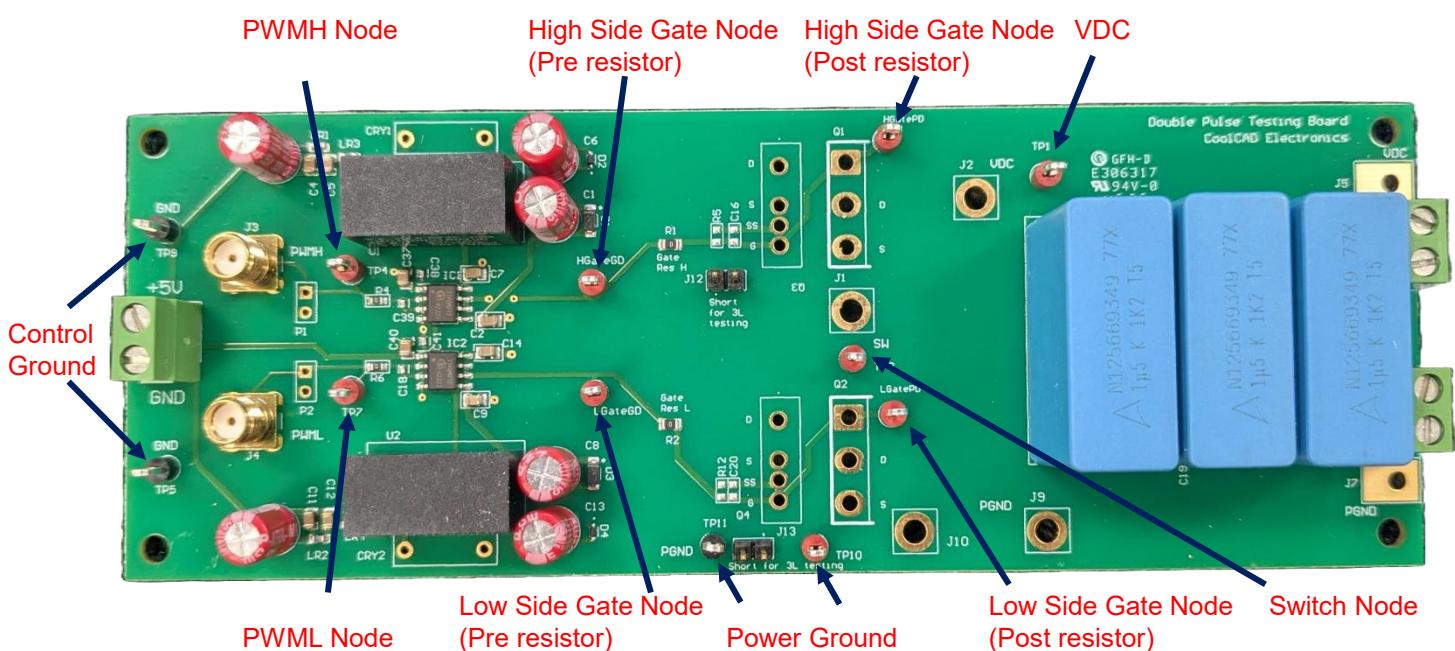

Figure 1 : DPT evaluation board: Top side view of test points.
**Figure 1** shows a top side view of the board with key test points labeled